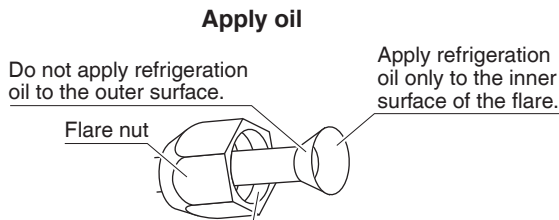

Fig. 10
- To prevent gas leakage, apply refrigeration oil only to the inner surface of the flare. (Use refrigeration oil for R410A.) (Refer to Fig. 10)
(2) Refrigerant piping